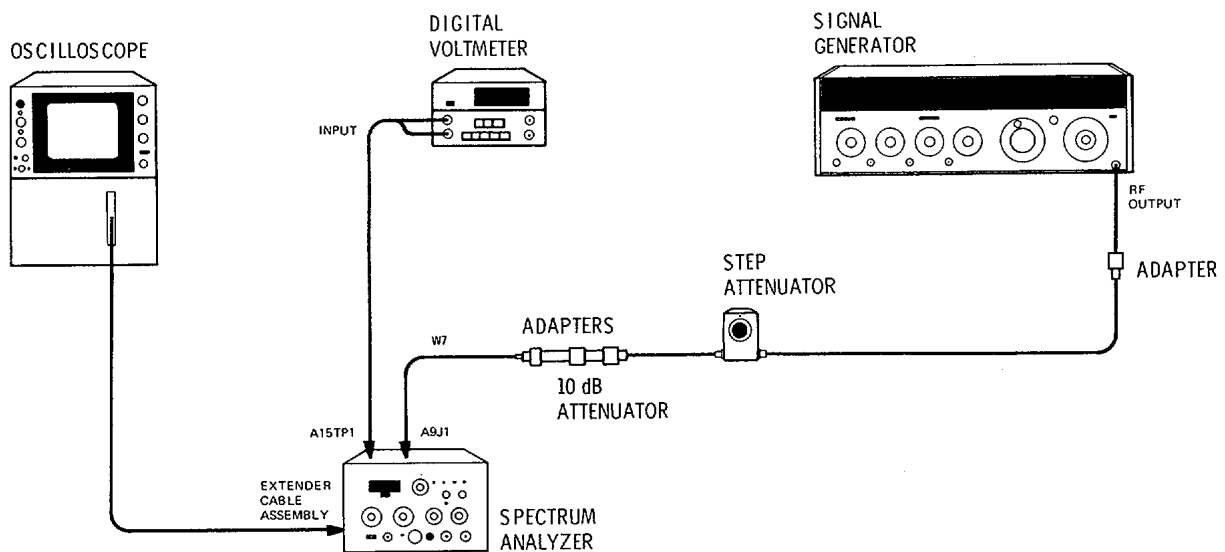

Figure 7-4. Log Amplifier Log and Linear Adjustment Test Setup (CHANGE B)
2. Connect equipment as shown in Figure 7-4. Set signal generator frequency to 301.4 MHz and output level to - 13 dBm. Remove W7P1 from Second IF assembly A10J2. Connect signal generator output through step attenuator, 0 dB attenuator, and adapters to W7P1.